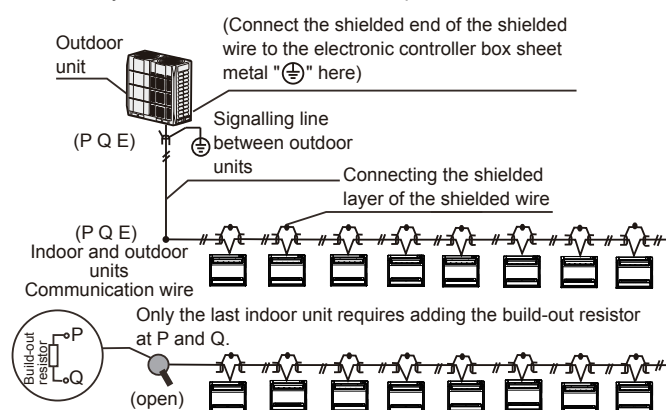

Figure 6.6
- The communication wiring between the indoor and outdoor units should be connected one unit after another in a daisy chain from the outdoor unit to the final indoor unit. And the shielded layer must be properly grounded, and a build-out resistor must be added to the last indoor unit to enhance the stability of the communication system (see Figure 6.6).